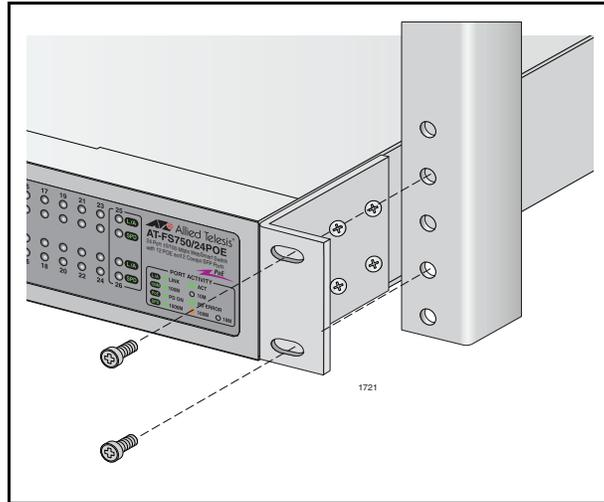

Figure 13. Mounting the Switch on the Rack
4. Mount the switch on a 19-inch rack, as shown in Figure 13.